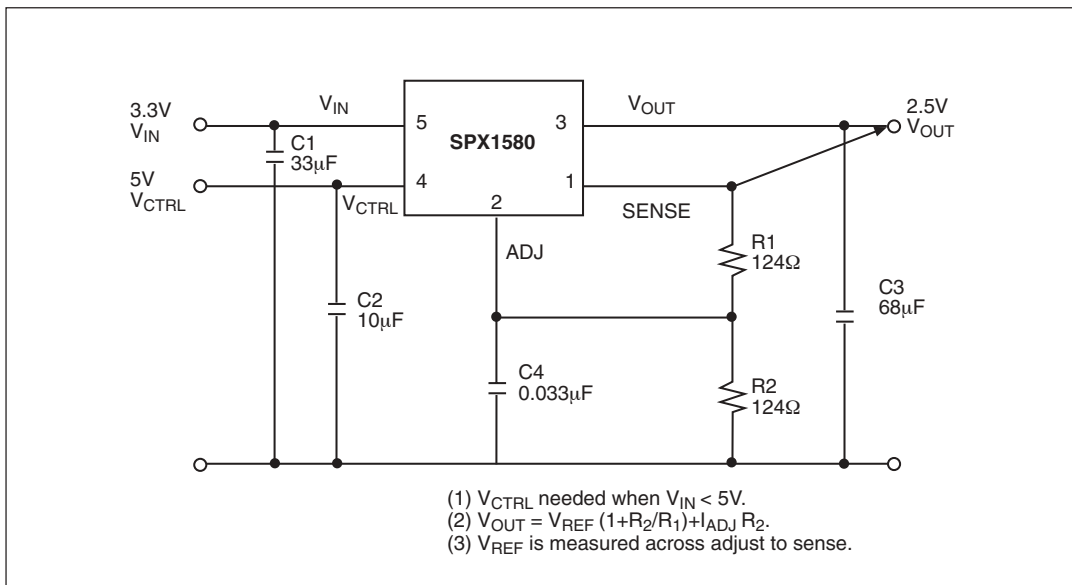

Figure 1. Adjustable Regulator.
1.25V reference voltage is being developed between the SENSE pin and the ADJ pin of the SPX1580. Adding two external resistors (see fig 1.) will allow setting the output voltage from 1.25V to 6V. R_1 is chosen so that this current is specified minimum load current of 10mA. R_2 is given by the formula: $V_{OUT} = V_{REF} (1 + R_2/R_1) + I_{ADJ} R_2$. The current flowing from the ADJ pin is typically 50uA. This ADJ pin contributes to the final V_{OUT} but is usually neglected. Connecting the sense pin to the top of the resistor divider will improve load regulation.